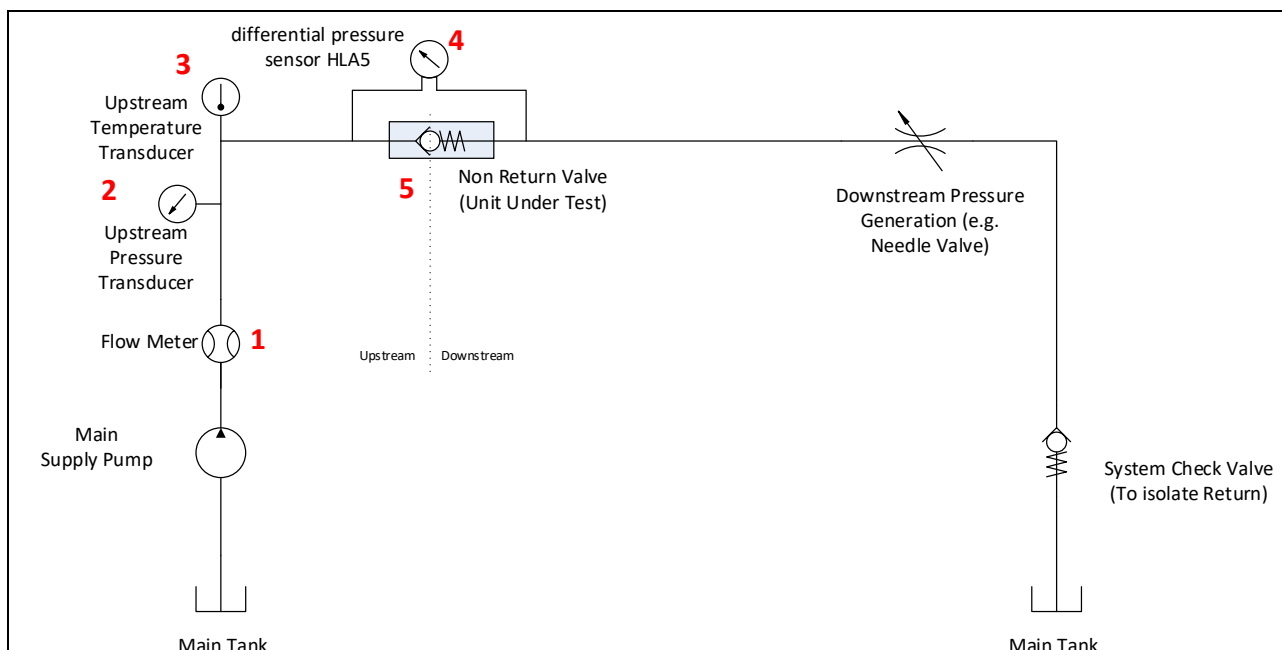

Figure 10: test setup Test Title 2 - 3(4)
(4) Pressure Drop at Rated Flow
- Test set-up in accordance to Figure 10.